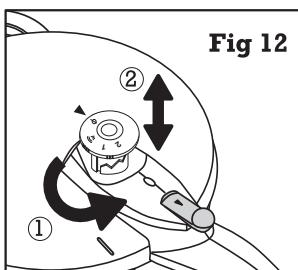

Fig 12
After every use, check to make sure that the operating valve is clear of any built-up particles. To do so, move the operating valve to the position shown in Fig. 12 and remove the valve (see detailed instructions below). Clean it by running water through it. Next, lift the lid up to the light and look through the hole under the operating valve. Make sure you can see through it and there are no food particles blocking it. If necessary, clean it with a small brush or pipe cleaner.
- TO REMOVE THE OPERATING VALVE FOR CLEANING PURPOSES: Move the operating valve to the pressure release position (picture of the circle with the line through it, Fig.7). Now turn a little harder to move the operating valve to the unlock position (picture of a circle with a line through it). Pull it gently upwards to remove it from its socket (see Fig.12).